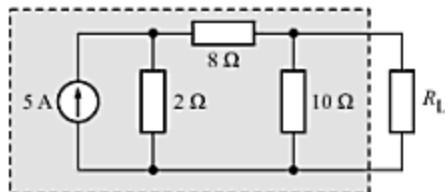

Fig. A-76
- A-35. Using repeated source transformations, determine the Norton's equivalent of network inside the dotted box in the circuit of Fig. A-76, and hence find the current that would flow in *R*_L if (a) *R*_L = 15 Ω, (b) *R*_L = 10 Ω, and (c) *R*_L = 5 Ω.